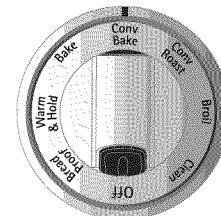

Figure 2
2. Turn the selector control knob to Conv Bake (Figure 2).